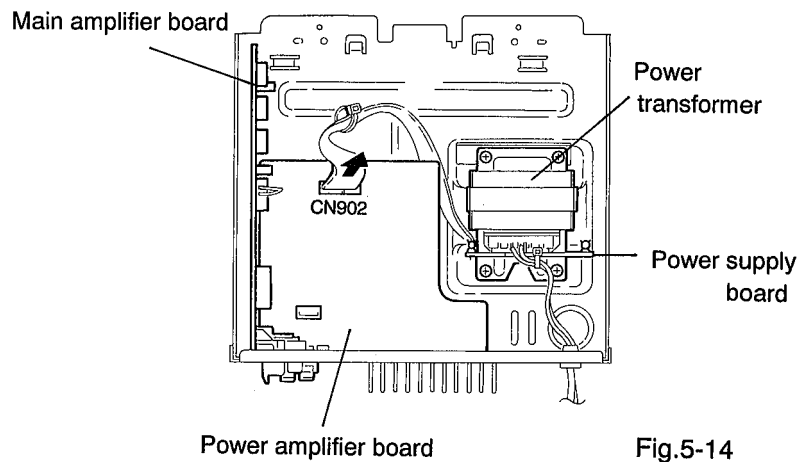

Fig.5-14
7. Disconnect the parallel wires protruding from the power supply board from connector CN902 of the power amplifier board. (See Fig. 5-14)